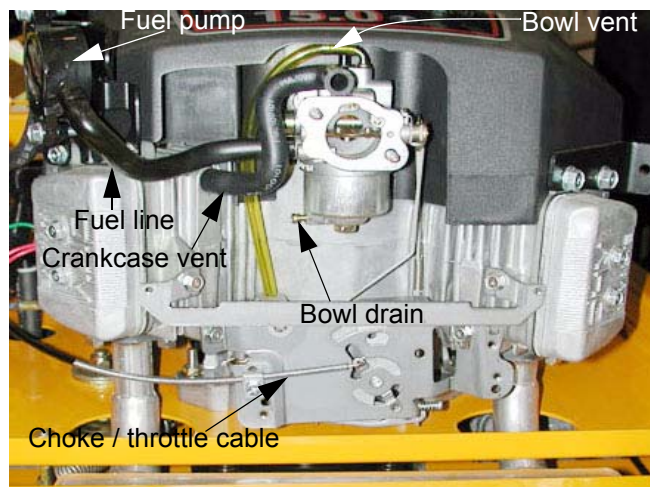

Figure 14.2
- 14.2. The carburetor is equipped with a bowl drain for off season storage as well as draining of contaminated or stale fuel. See Figure 14.2.
NOTE: Air filter housing completely removed for figure 14.2